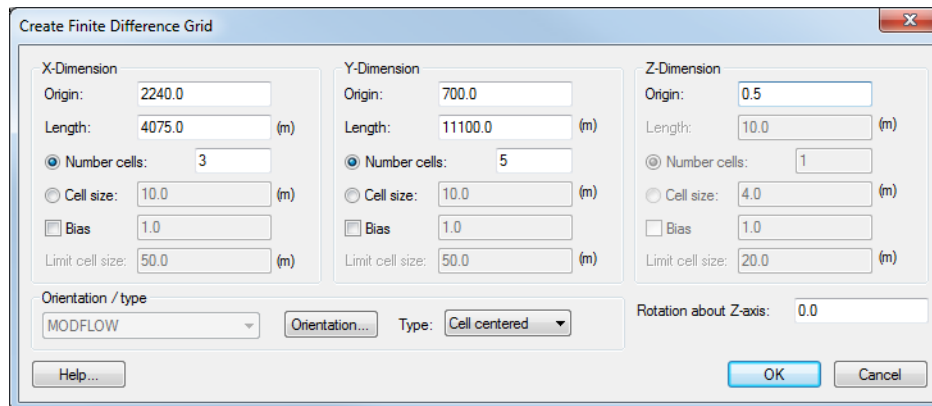

Figure 10 Create Finite Difference Grid dialog
5. In the *Orientation/type* section, select “Cell centered” from the *Type* drop-down. The dialog should appear similar to Figure 10.